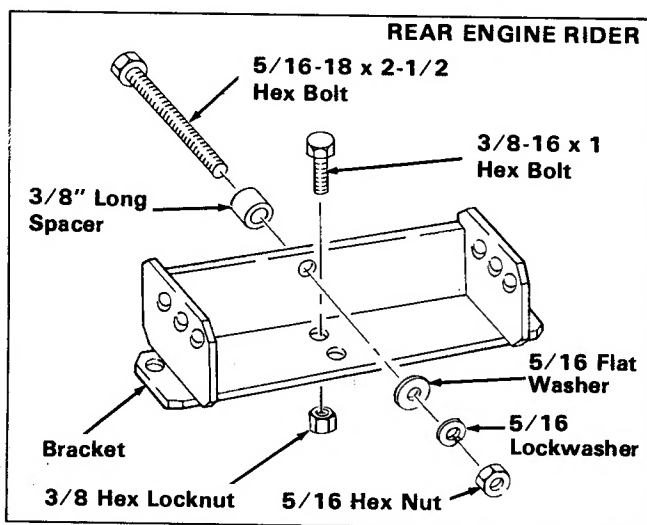

Figure 2.
1. Before installing the bracket (figure 2) to the drawbar, remove the 5/16-18 x 1-1/4 hex bolt, which is located on the back plate. Discard the bolt.